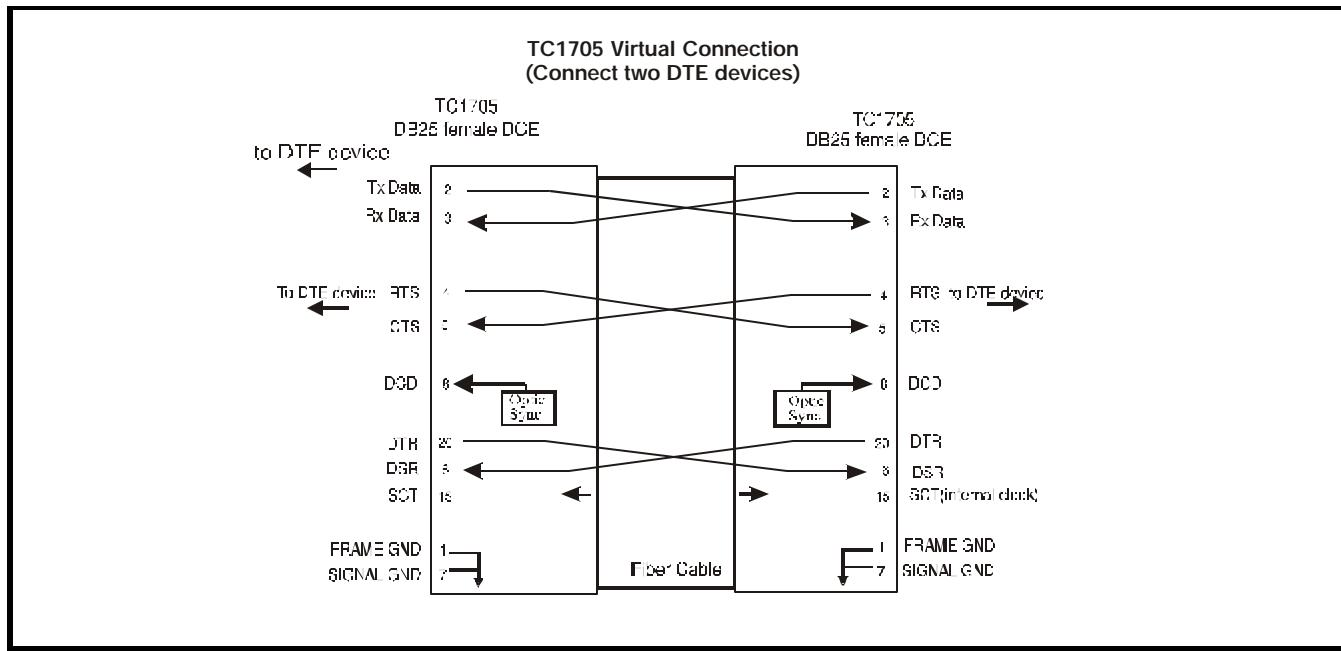

Figure 1. TC1705's Asynchronous Pin Assignments & Virtual Connections
- DIP #3:** In the "Up" position, the unit is in the internal clock mode. When in the "Down" position, the unit is in slave clock mode. The internal clock signal is transmitted to the user's equipment through pin 15 (see figures 1 and 2) when the unit is configured as a DCE device.